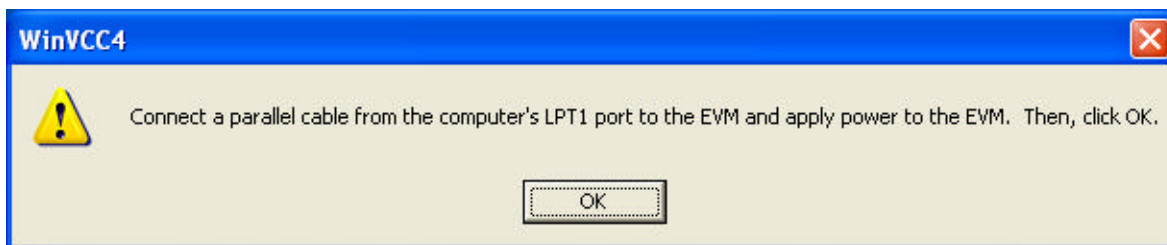

Figure 20. Corrective Action Required
- b. The dialog shown in Figure 20 appears instructing you to correct the problem.